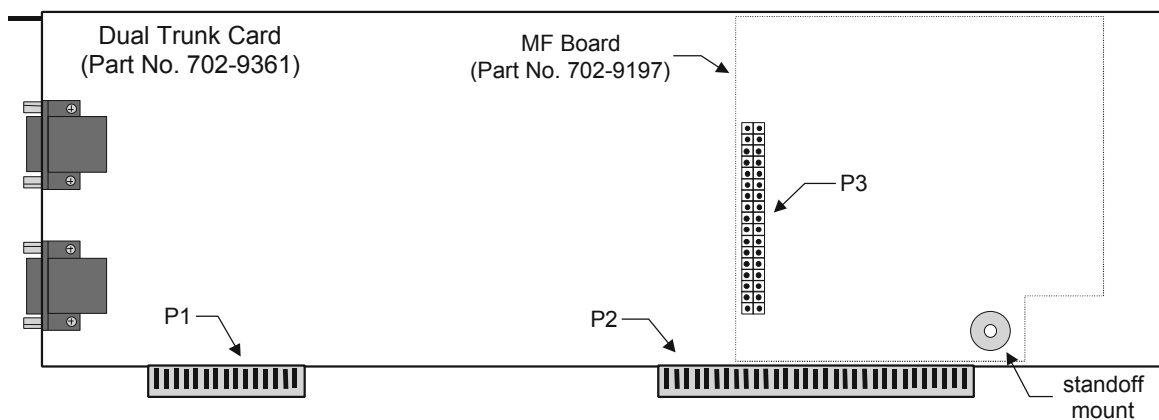

Figure 59. Multifrequency Board Installation
4. Mount the supplied standoff as shown in Figure 59.